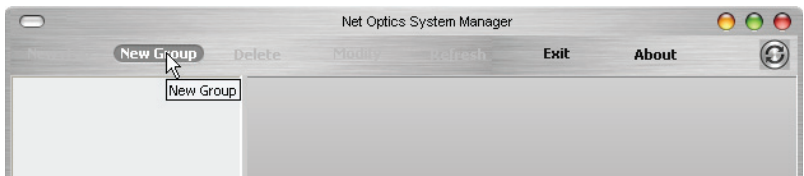
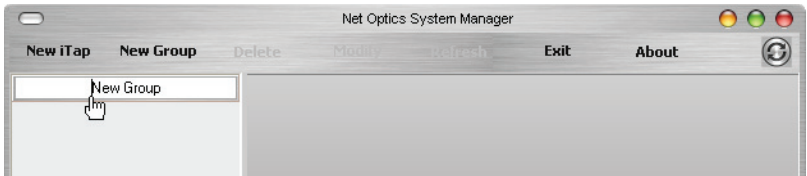

Figure 27: New Group
Figure 28: Group Bar
1. Click **New Group** in the toolbar as shown in Figure 27. A new group bar appears in the System Frame as shown in Figure 28.